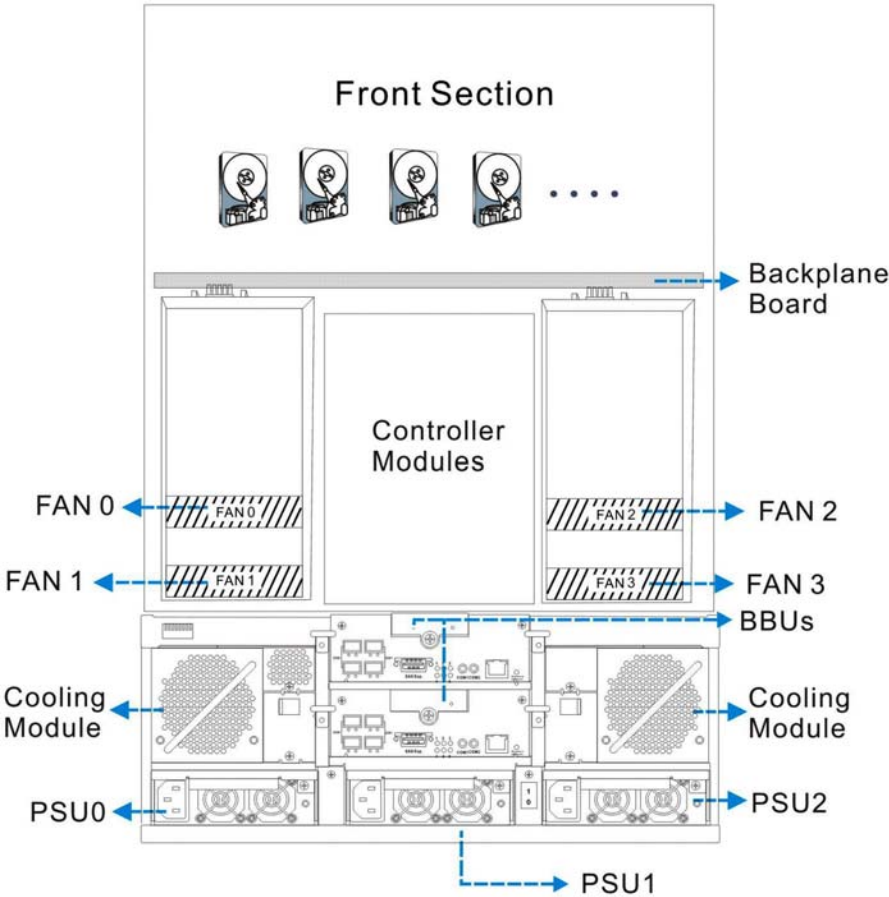

Figure 1-2: Galaxy 24-bay SATA RAID Subsystem Overview
The Galaxy HDX2 24bay subsystem comes with a 4U compact steel chassis and aluminum alloy framework for even distribution of component heat. A back-end PCB is enclosed in thick gauge sheet metal that divides the enclosure internally into the front and rear sections. (See **Figure 1-2**) The front section accommodates twenty-four (24) drive trays (with their associated hard drives) and the rear section accommodates three (3) PSU modules, two (2) dual-fan cooling modules, and RAID controllers in a single- or dual-controller configurations. The two (2) foldable handles on the front of the chassis enable you to easily extract the chassis from a rack cabinet. The subsystem enclosure can be mounted into standard 19-inch rack cabinets using separately purchased slide rails.